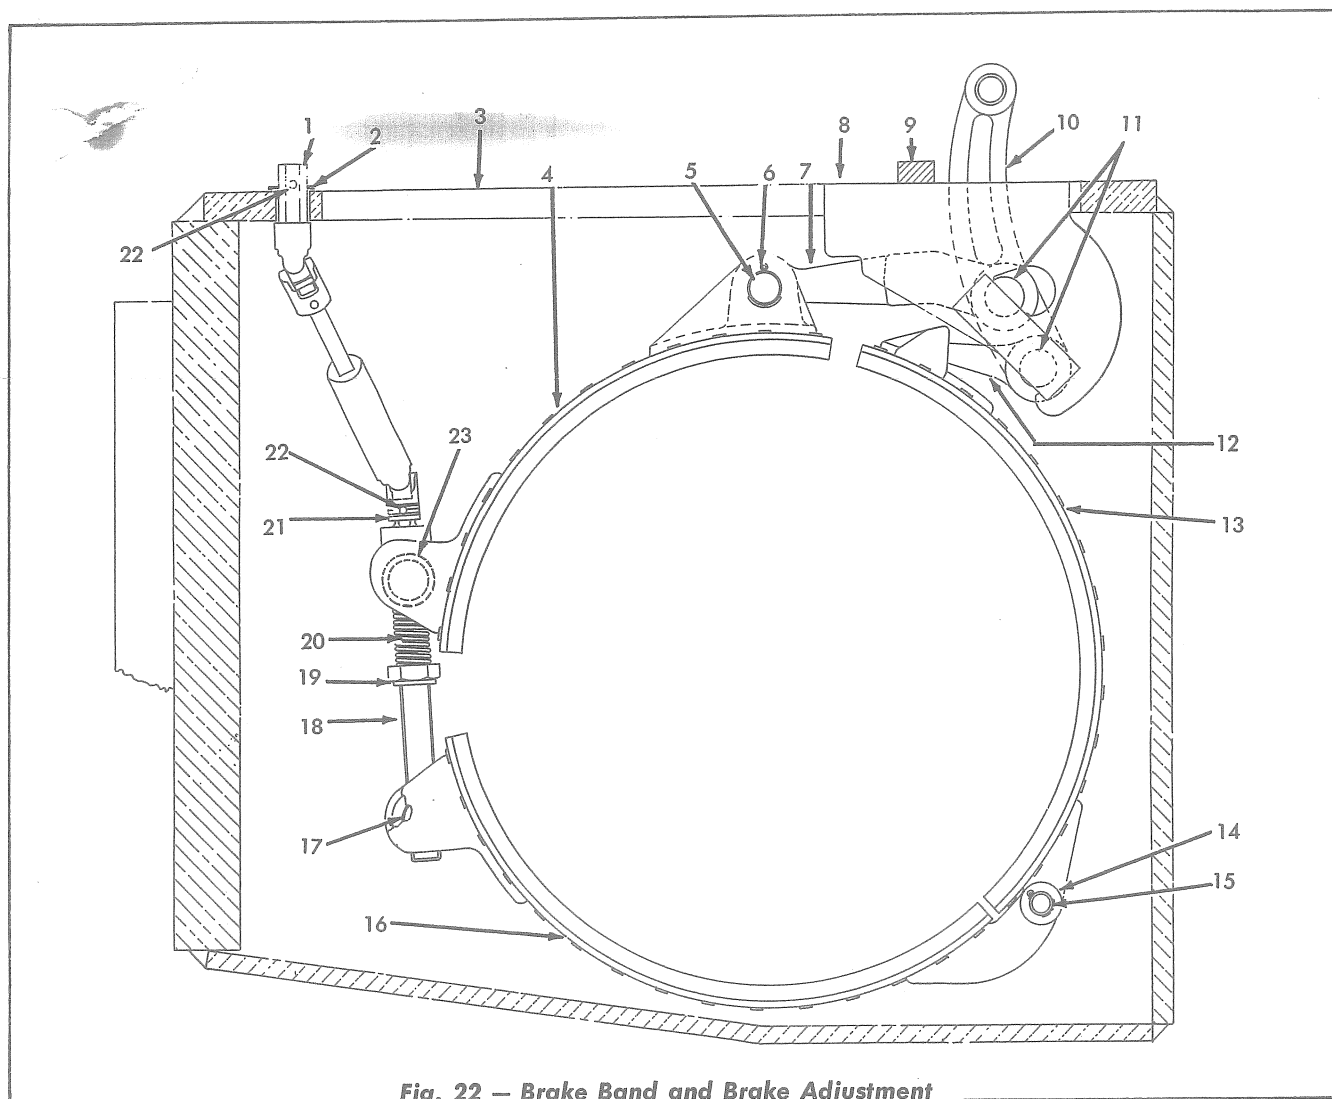

Fig. 22 — Brake Band and Brake Adjustment Assembly — Sectional View
3. Refer to Fig. 22, and lower the band adjusting screw and adjusting screw universal drive lower section into position in the steering clutch compartment. Start the lower section of the universal drive assembly in position on the upper section, engage the lower adjusting screw pin in position in the pin bracket of the bottom section band assembly, and hold the adjusting screw assembly in this position. Place the top section band assembly in position on the brake drum and engage the upper adjusting screw pin in position in the pin bracket of the top section band assembly.
6. Place the band lever bracket assembly in position on the brake band sections, inserting the band lower yoke into the yoke bracket on the intermediate section band assembly as shown in Fig. 22. Install the top band pin to connect the band upper yoke to the top section band assembly. Secure the top band pin in position by installing a cotter pin in each end of the pin.